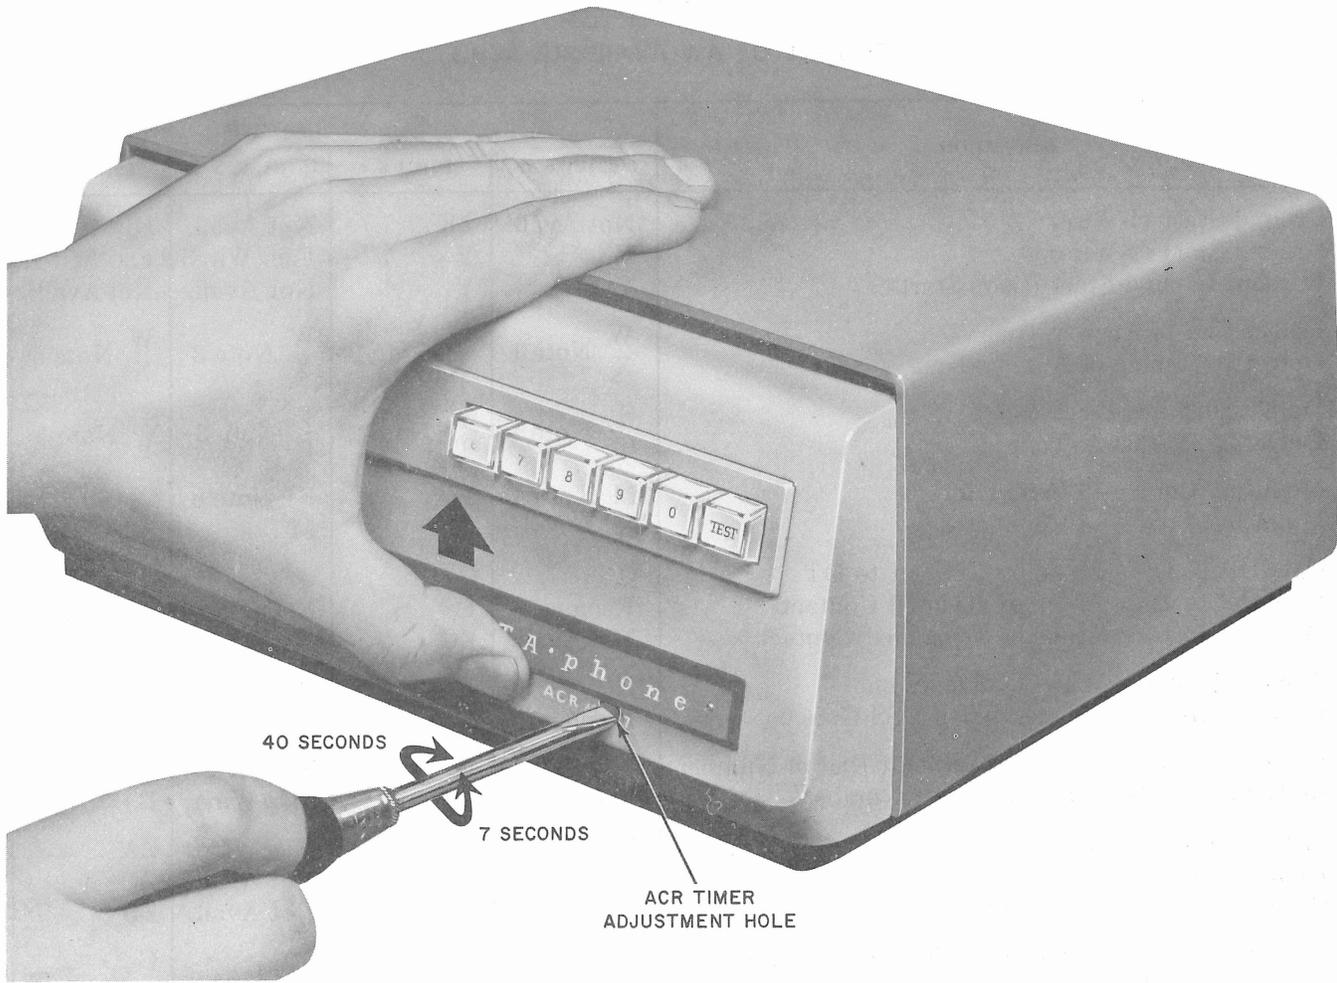

Fig. 5—ACR Timer Adjustment
3.03 Set the Abandon Call Retry (ACR) Timer for the desired time interval (Fig. 5 and Table C). Where no ACR time interval is specified, set time to 40-second position.
INTERVAL SELECTED	Expose ACR timer adjustment hole as shown in Fig. 5 and set timer as described below.